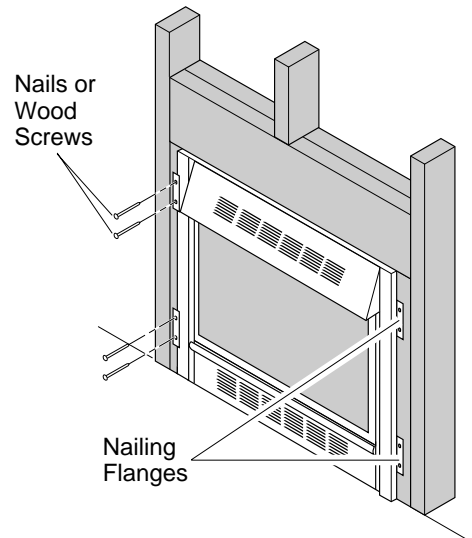

Figure 28 - Attaching Fireplace to Wall Studs
7. Attach fireplace to wall studs using nails or wood screws through holes in nailing flange (see Figure 28).